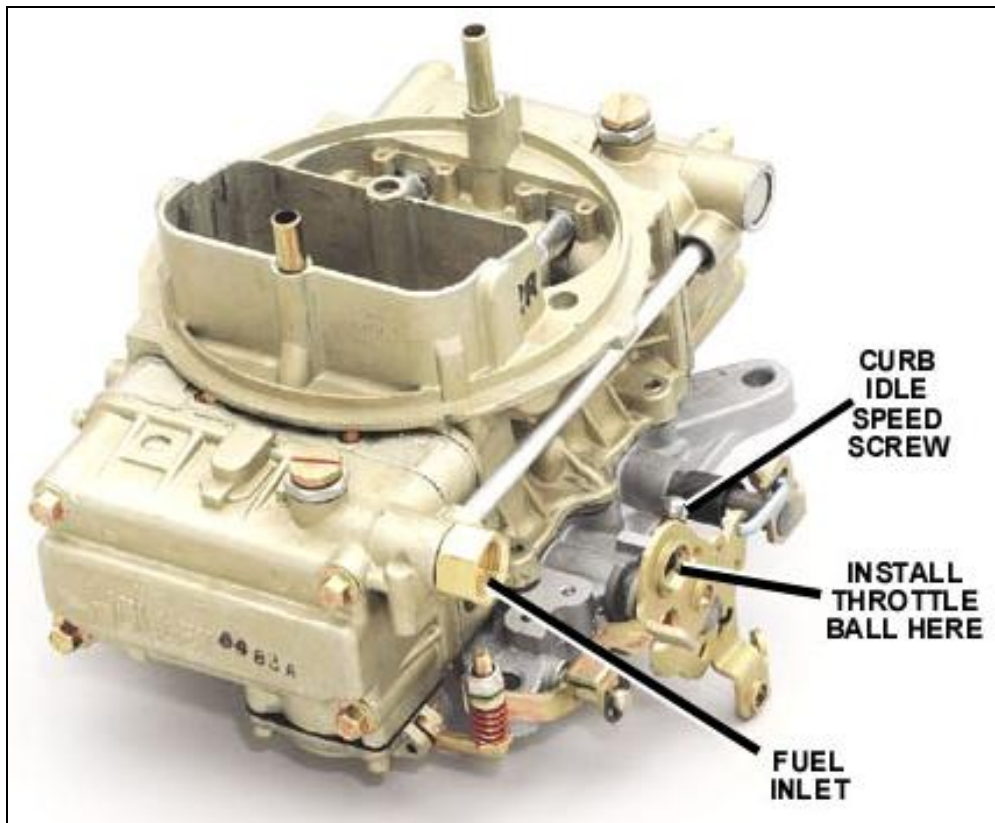

Figure 1
3. Remove the throttle cable ball and automatic transmission kick-down stud (if equipped), and mount on the Holley throttle lever. (See Fig. 1) Some modifications to the lever may be necessary for some installations.) There is one size throttle ball in the unassembled parts bag. A full assortment of throttle balls can be purchased under Holley P/N 20-2.